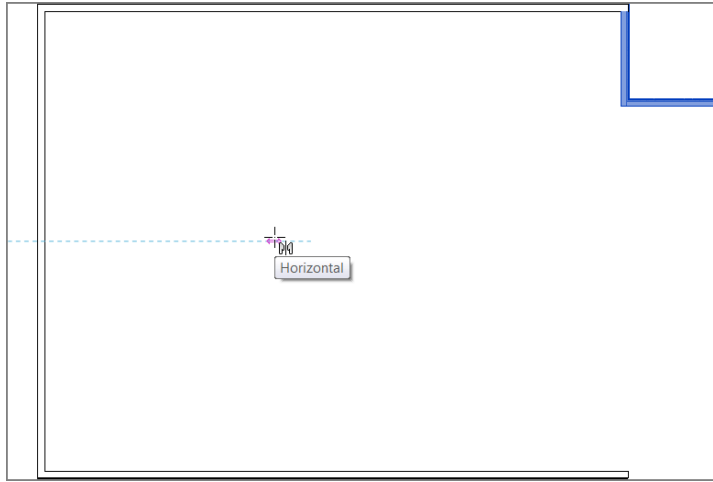
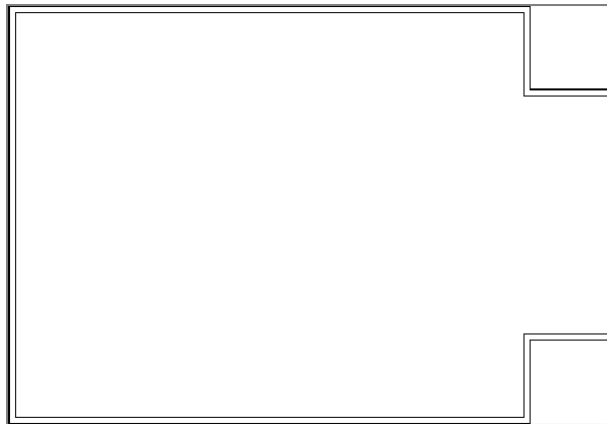

FIGURE 1.25: Mirroring these walls involves: (1) picking the midpoint of the vertical wall and (2) picking a horizontal point along the plane.
FIGURE 1.26: Your building should look like this illustration.
6. When the triangular midpoint snap appears, pick this point. After you pick the point where the triangle appears, you can move your cursor directly to the right of the wall. An alignment line appears, as shown in Figure 1.25. When it does, you can pick another point along the path. When you pick the second point, the walls are mirrored and joined with the south wall (see Figure 1.26).
Now that you have some experience mirroring items, it's time to start adding components to your model by using the items that you placed earlier. If you're having trouble following the process, retry these first few procedures. Rome wasn't built in a day. (Well, perhaps if they'd had Revit, it would have sped things up!) You want your first few walls to look like Figure 1.26.